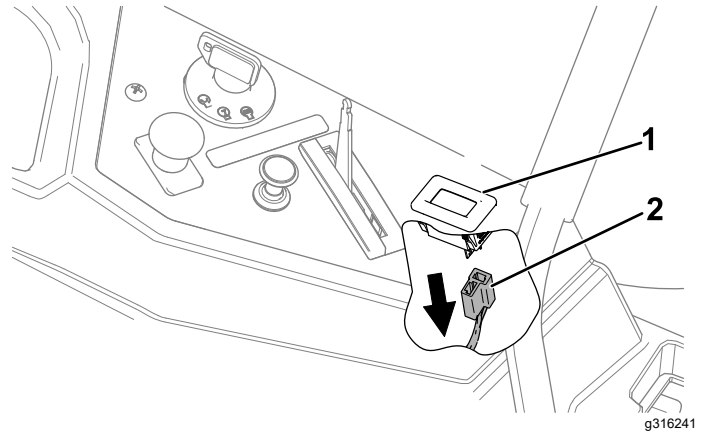

Figure 7
1. Disconnect the machine hour meter connector from the hour meter (Figure 7).